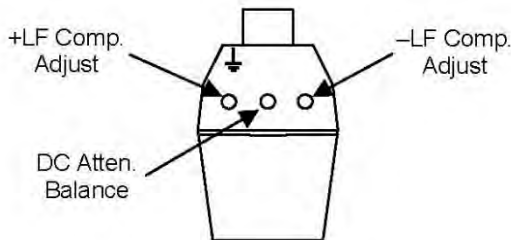

Figure 8, $\div 10$ Attenuator Adjustment Locations
11. Using the square adjustment tool, adjust the **+LF Comp** (See Figure 8) to achieve the best square corner and flat top of the displayed waveform. Note that the added capacitance of the adjustment tool may change the compensation of the waveform when it is inserted. The correct adjustment is achieved when the best corner is displayed with the adjustment tool removed.
15. The displayed waveform is the common mode feedthrough. Using the adjustment screwdriver with the flat blade, adjust the DC Attenuation. Balance (Figure 8) to minimize the amplitude of the flat portions of the displayed waveform. This adjustment only affects the flat portions of the square wave. Do not be concerned with any overshoot at the transitions.
18. Using the 0.025 in. square adjustment tool, adjust the **-LF Comp** (Figure 8) to minimize the amplitude of overshoot during the transition of the displayed waveform. It may not be possible to completely eliminate the overshoot. As with the +LF Comp adjustment, the added capacitance of the adjustment tool may change the amplitude of the waveform when it is inserted into the adjustment. The correct adjustment is achieved when the overshoot is minimized.